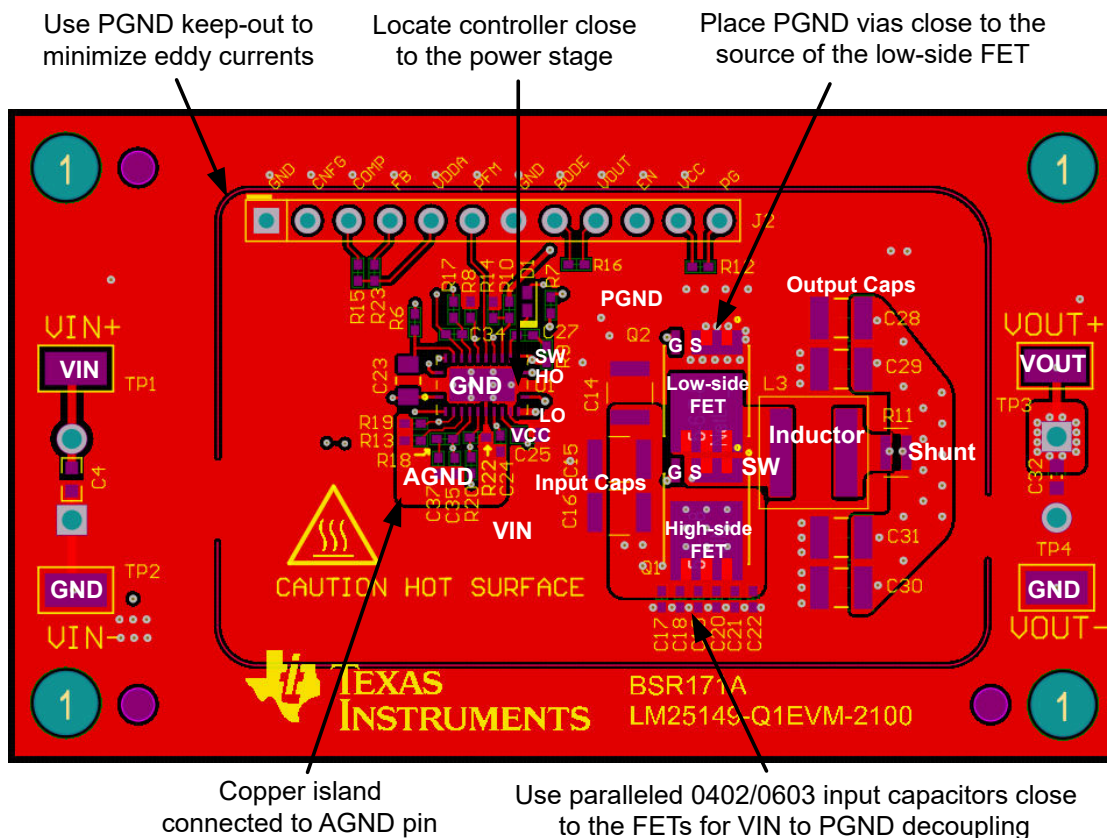

Figure 9-48. PCB Top Layer – High Density, Single-sided Design
- Connect AVSS to a quiet GND connection, further from IC if possible. Keep decoupling capacitor $C_{AEFVDDA}$ close to the AEFVDDA pin and AVSS GND connection. See capacitor C23 in Figure 9-48.
Figure 9-48 shows a single-sided layout of a synchronous buck regulator with discrete power MOSFETs, Q1 and Q2, in SON 5-mm × 6-mm case size. The power stage is surrounded by a GND pad geometry to connect an EMI shield if needed. The design uses layer 2 of the PCB as a power-loop return path directly underneath the top layer to create a low-area switching power loop of approximately 2 mm². This loop area, and hence parasitic inductance, must be as small as possible to minimize EMI as well as switch-node voltage overshoot and ringing.
- Make the ground connections to the LM5149 controller as shown in Figure 9-48. Create a power ground directly connected to all high-power components and an analog ground plane for sensitive analog components. The analog ground plane for AGND and power ground plane for PGND must be connected at a single point directly under the IC – at the die attach pad (DAP).